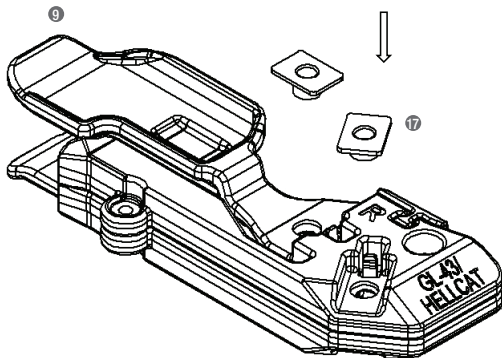
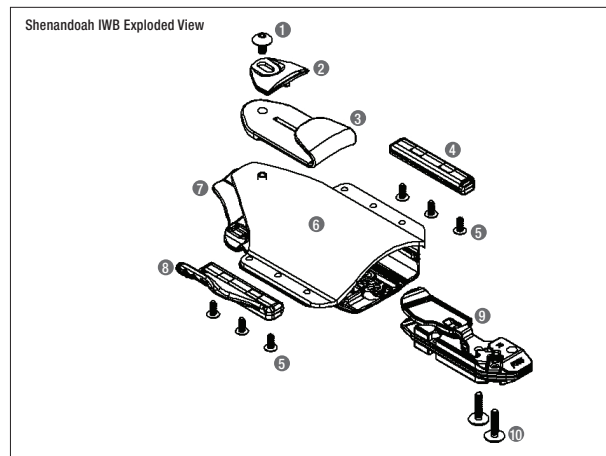

Figure 8
Figure 1
To replace a PRD, remove the two PRD Screws (10) as shown in Figure 1 and slide the PRD out the bottom of the holster. Identify the correct PRD (9) based on the fit list and the engraving on the PRD. To install the slab nuts (17) in the PRD correctly, insert the nut barrel in the associated pocket hole, from the side that corresponds to the holster. For example, the correct installation for the two slab nuts on a Glock 43 PRD is shown in Figure 8. Note that the "R" engraving is facing the same side as where the slab nuts are installed. Position the PRD back into the holster body and reinstall the two PRD Screws.
As seen in Figure 1, each Model 175 Shenandoah holster is preconfigured to an IWB mounting style with the firearm model specific PRD (9) installed. The PRD model is engraved with a firearm identification marking that is visible through the bottom opening of the holster and should match the product packaging's model labels. The Shenandoah holster is preconfigured to an IWB mounting style that features the Tuck Device (8) option preinstalled. The Tuck Device should enhance concealment, in most wear locations, by pulling the grip of the gun closer to the body. The default behind-the-belt style IWB mounting J-Hook (3) accommodates belt sizes from 1.5" to 1.75" for the Small Barb J-Hook Tab (2) set-up. A Large Barb J-Hook Tab (12) is included in the Accessory Pack and will accommodate a belt size between 1.0" and 1.375". Proper placement of the holster is such that the holster body and firearm is inside the waistband while the J-Hook wraps behind and around the belt's lower edge while being secured in place by the Tab on the belt's upper edge.